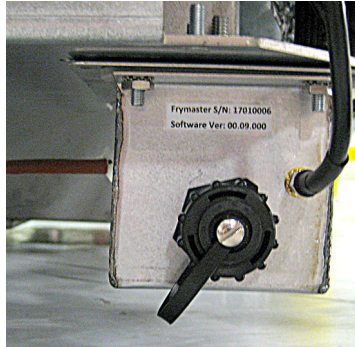

Figure 4
7. Locate the Datalink box under the rear right side of the fryer (see Figure 4).
- Remove the JIB if applicable and locate the USB port. Refer to Figure 4 for locating the USB port.